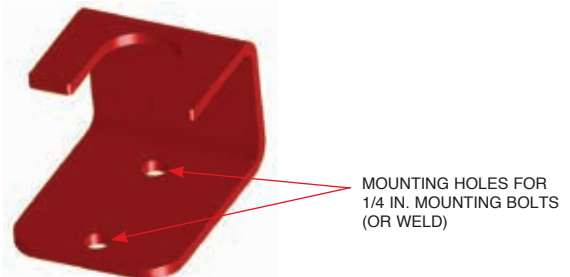

FIGURE 5-17
- Attach Spot Thermal Detector Bracket securely to mounting surface by welding or bolting with two 1/4 in. bolts of appropriate length (secure with lock washers and nuts). See Figure 5-17. **Note:** When supporting from the vehicle make certain any support device requiring drilling or welding is approved by owner or vehicle manufacturer.